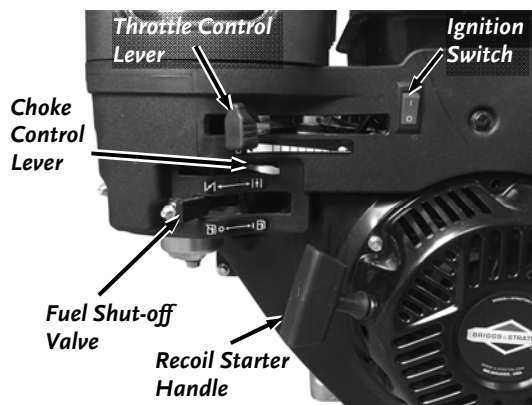
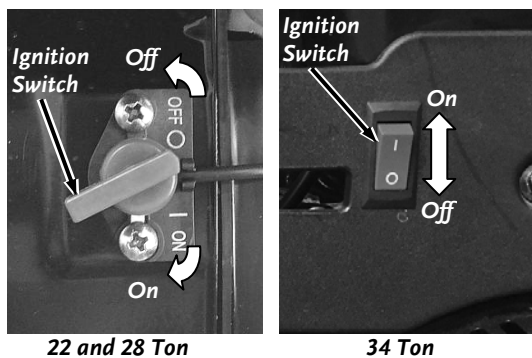

Figure 36
Figure 37
4. Make sure the Engine is in the “OFF” position (**refer to Figure 37**) and disconnect the spark plug wire from the spark plug. Prime the pump by pulling the recoil starter handle (**refer to Figure 36**) as far as it will go. Repeat approximately 10 times.
2. Make sure the fuel shut-off valve is in the “ON” position (**Figure 36**).
5. Turn the Ignition Switch to the “On” position (**Figure 37**). Grasp the recoil starter handle and slowly pull until you feel resistance (**Figure 36**). Let the cord retract a little bit then pull the cord rapidly to start the engine. One or two pulls usually starts the engine.
6. Move the choke control lever (if used for cold engine) slowly back to the OPEN position (to the right) when the engine is running well (**Figure 36**).
1. Move the Throttle Lever to Idle  position (**Figure 36**).
1. Turn the Ignition Switch to the “Off” position (**Figure 37**).